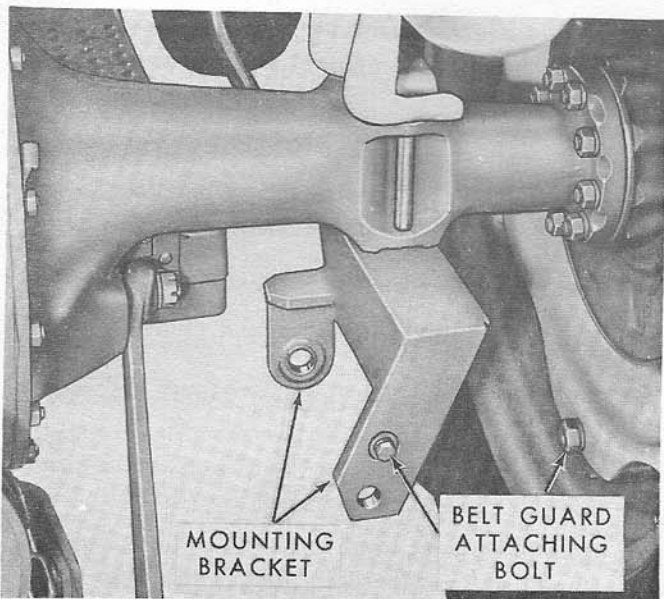

Figure 22
7. Secure the drive housing mounting bracket to the right axle housing with the two fender bolts as shown in Figure 22.